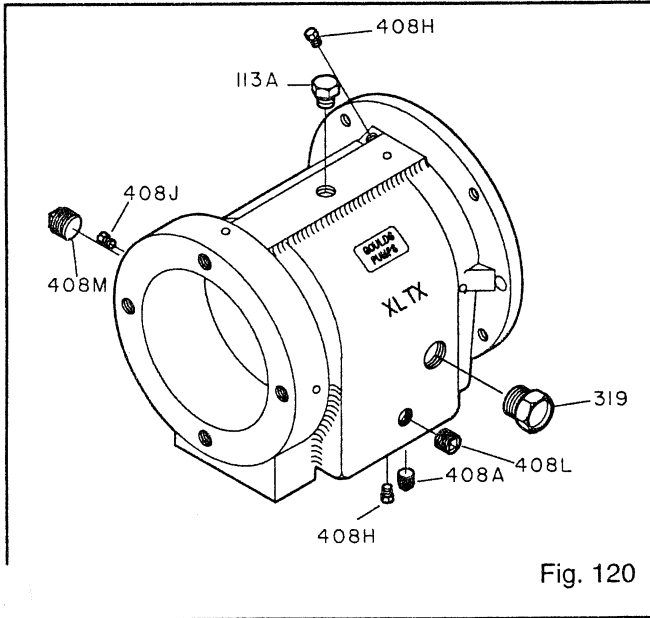

Fig. 120
Install oil fill plug (113A), oil drain plug (408A), sight glass (319), sight oiler plug (408J), four oil mist connection plugs (408H), or grease fittings (193) and grease relief plugs (113), and oil cooler inlet and outlet plugs (408L, 408M) in bearing frame (228A) (Fig. 120).